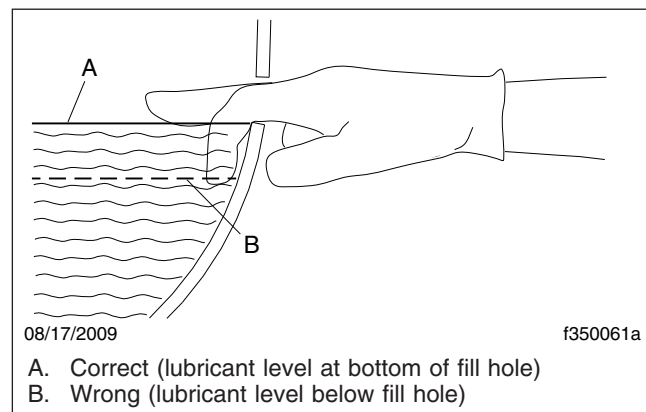

Fig. 9, Drive Axle Lubrication Level
4. Lubricant should be level with the bottom of the fill hole. See **Fig. 9**. If low, check the axle for leaks, and have any leaks corrected. Add lubricant as required. See **Table 1** and **Table 2** for recommended drive axle lubricants.
8. Fill the axle housing to the bottom of the fill hole, (**Fig. 9**) using the specified lubricant. See **Table 1** and **Table 2** for recommended drive axle lubricants.